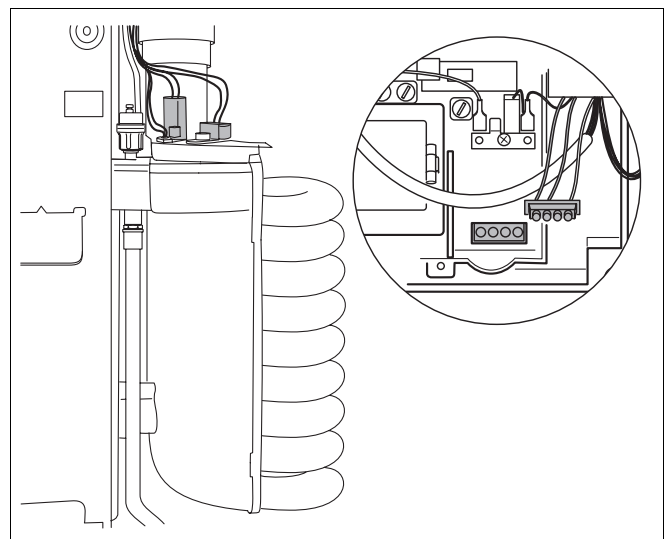

Fig. 75 Disconnect the plug-in cable from the UBA housing
- Unplug hot surface ingitor connection cable from UBA housing (fig. 75).